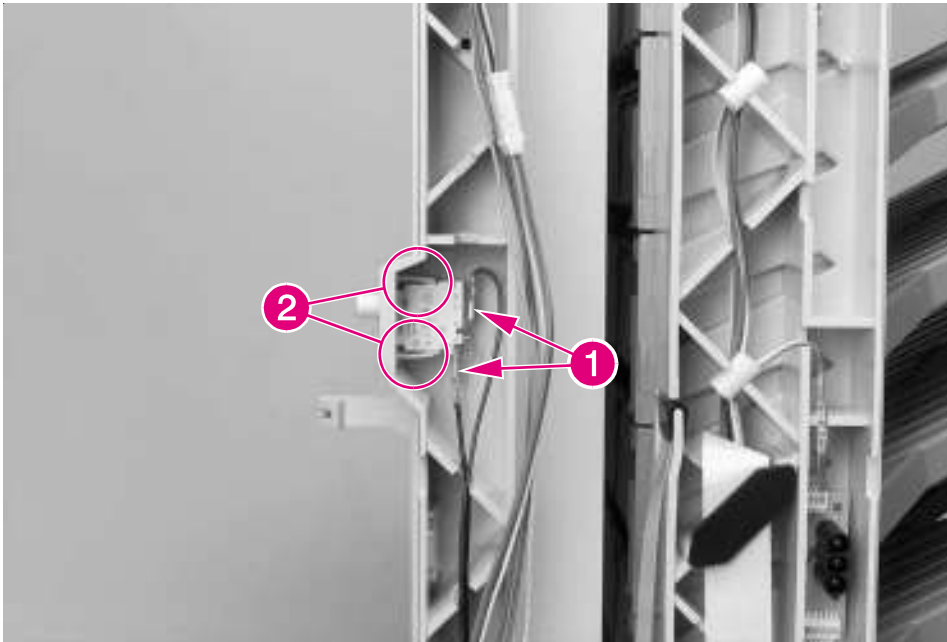

Figure 6-173 8-bin Mailbox Interlock Switch
- 2 Inside the back side of the 8-bin Mailbox frame, disconnect the 2 wires from the Interlock Switch (Figure 6-173, callout 1).